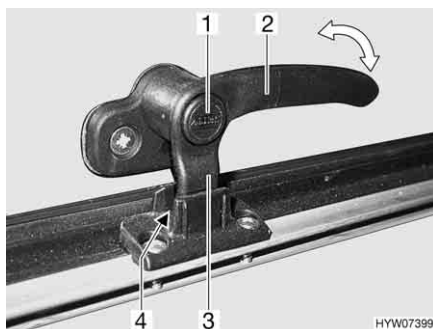
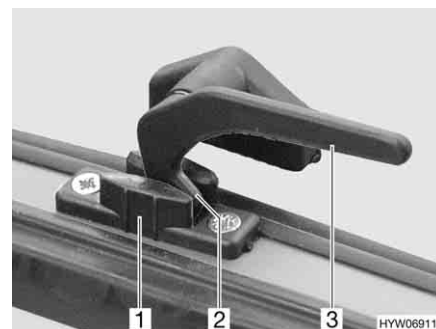

Fig. 89 Catch lever with safety knob in "continuous ventilation" position
Fig. 90 Catch lever in "continuous ventilation" position
- "Continuous ventilation" (Fig. 89 and Fig. 90)
- Press and hold the security button (Fig. 89,1), if present.
- Turn all catch levers (Fig. 89,2 or Fig. 90,3) a quarter turn towards the centre of the skylight.
- Return all catch levers to their initial position. The locking catch (Fig. 89,3 or Fig. 90,2) has to be moved into the recess of the skylight lock (Fig. 89,4 or Fig. 90,1).